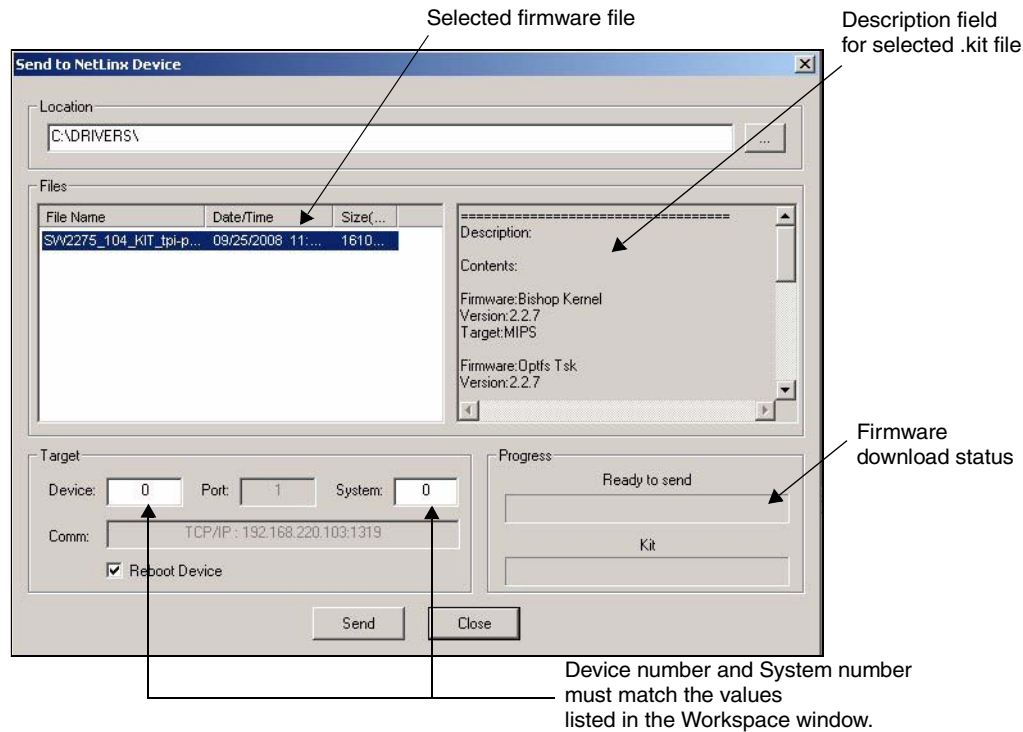

FIG. 33 Select to NetLinx Device dialog box (showing TPI-PRO firmware update via IP)
7. Select **Tools > Firmware Transfers > Send to NetLinx Device** from the Main menu to open the Send to NetLinx Device dialog box (FIG. 33). Verify the TPI-PRO's System and Device number values match those values listed within the System folder in the **OnLine Tree** tab of the Workspace window.
8. Select the TPI-PRO's .kit file from the Files section (FIG. 33).
11. Click **Send** to begin the transfer. The file transfer progress is indicated on the bottom-right of the dialog box (FIG. 33).